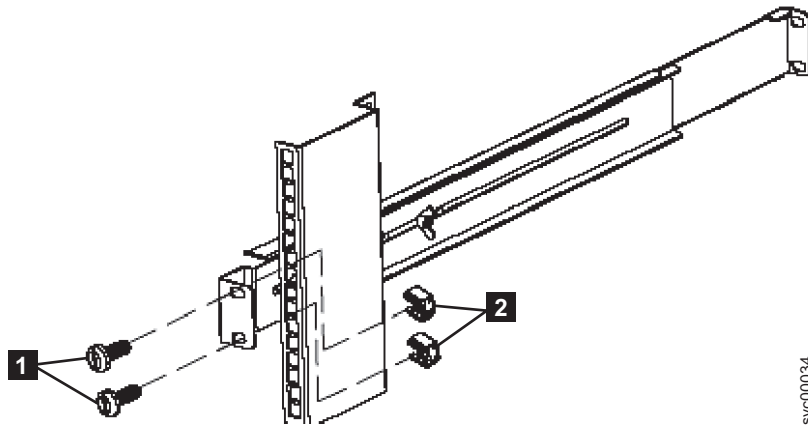

Figure 323. Removing the rear rail on the 2145 UPS-1U
5. Remove the two M6 × 10 screws from the rear side of the rail (**1** in Figure 323) and the two clip nuts (**2**).